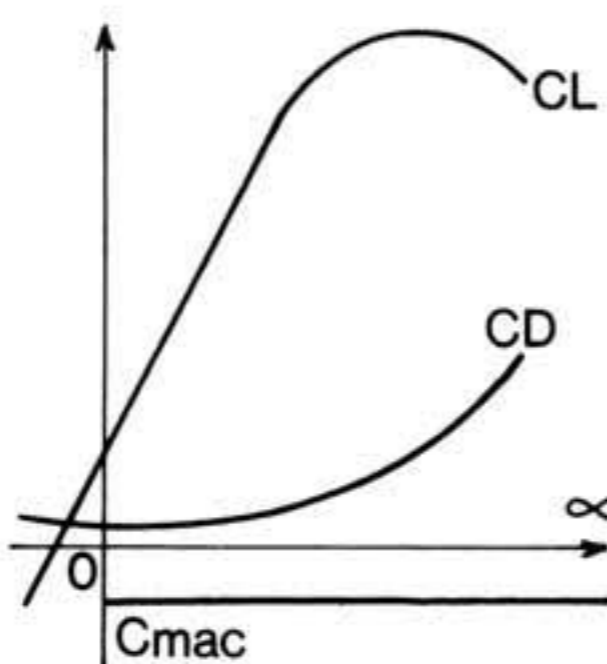

Fig. 1 Aerodynamic characteristics of an aerofoil.
3.3 So why do some aerofoils pitch increasingly negative at low angles of attack then, if pitching around the AC is constant with attitude? It's because the only way to lower the angle of attack in a hang glider is to fly faster. If you feed increasing velocity into the pitching model stated in 3.1 and Fig.1, you can find that the negative pitching of an aerofoil far from remaining constant, can increase dramatically.